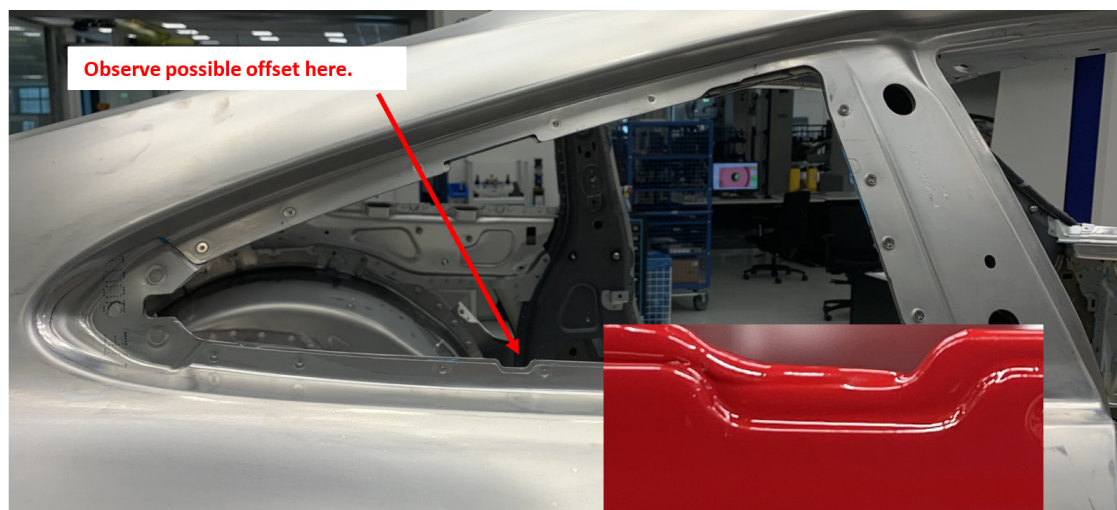

Figure 4
5. There should be no offset, or gap, between the inner and outer layers of the side body panel. (See figure 4.)